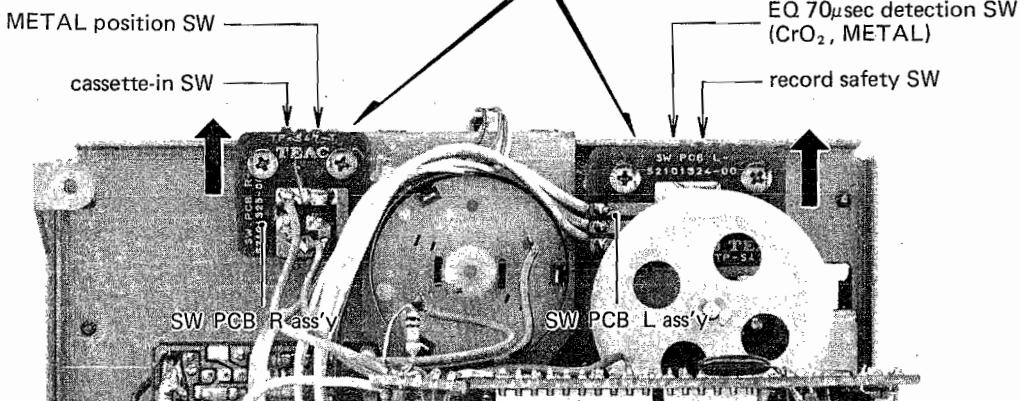

Fig. 4-4
- When remounting SW PCB L ass'y\* or SW PCB R ass'y\* is required, push it (them) as far upward (as shown by the arrows) as possible. Afterwards, check that each of PCB-mounted leaf switch shape is normal (Fig. 4-4's A), then proceed to the next steps.
- SW PCB L ass'y\* 又はSW PCB R ass'y\* を再取付の場合、できるだけ上方(図の矢印方向)に取付ける。取付後、リーフ・スイッチに変形がないこと(図4-4のA)を確認してから次項以降のチェックをする。